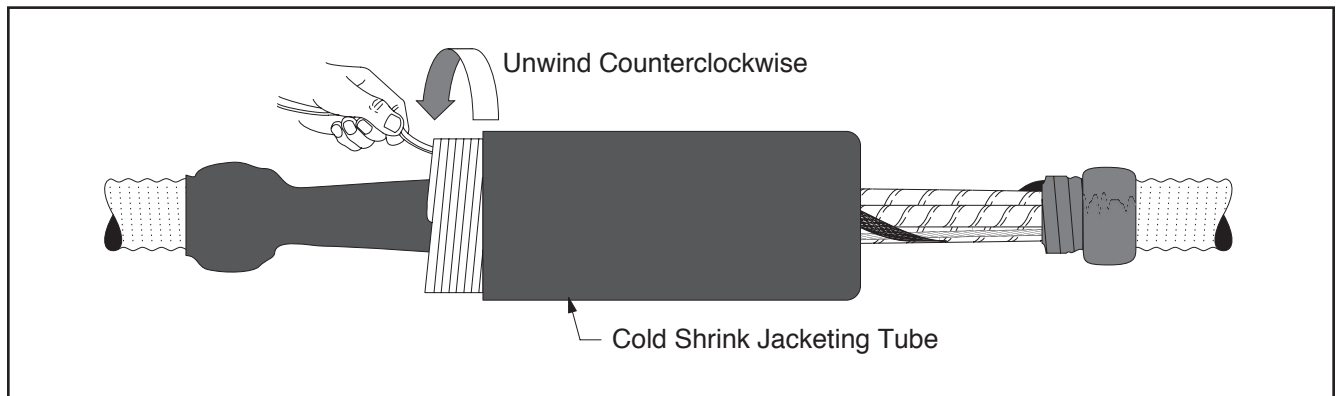

Figure 24
- 3.3 Continue to install the cold shrink jacket over the rubber mastic on Cable Y by slowly pulling and unwinding the outer core counterclockwise. This portion of the cold shrink tube installs differently than typical cold shrink products in that as the tube shrinks, the end rolls under. The tube may need an occasional push to keep it moving toward the second mastic seal (*Figure 24*).